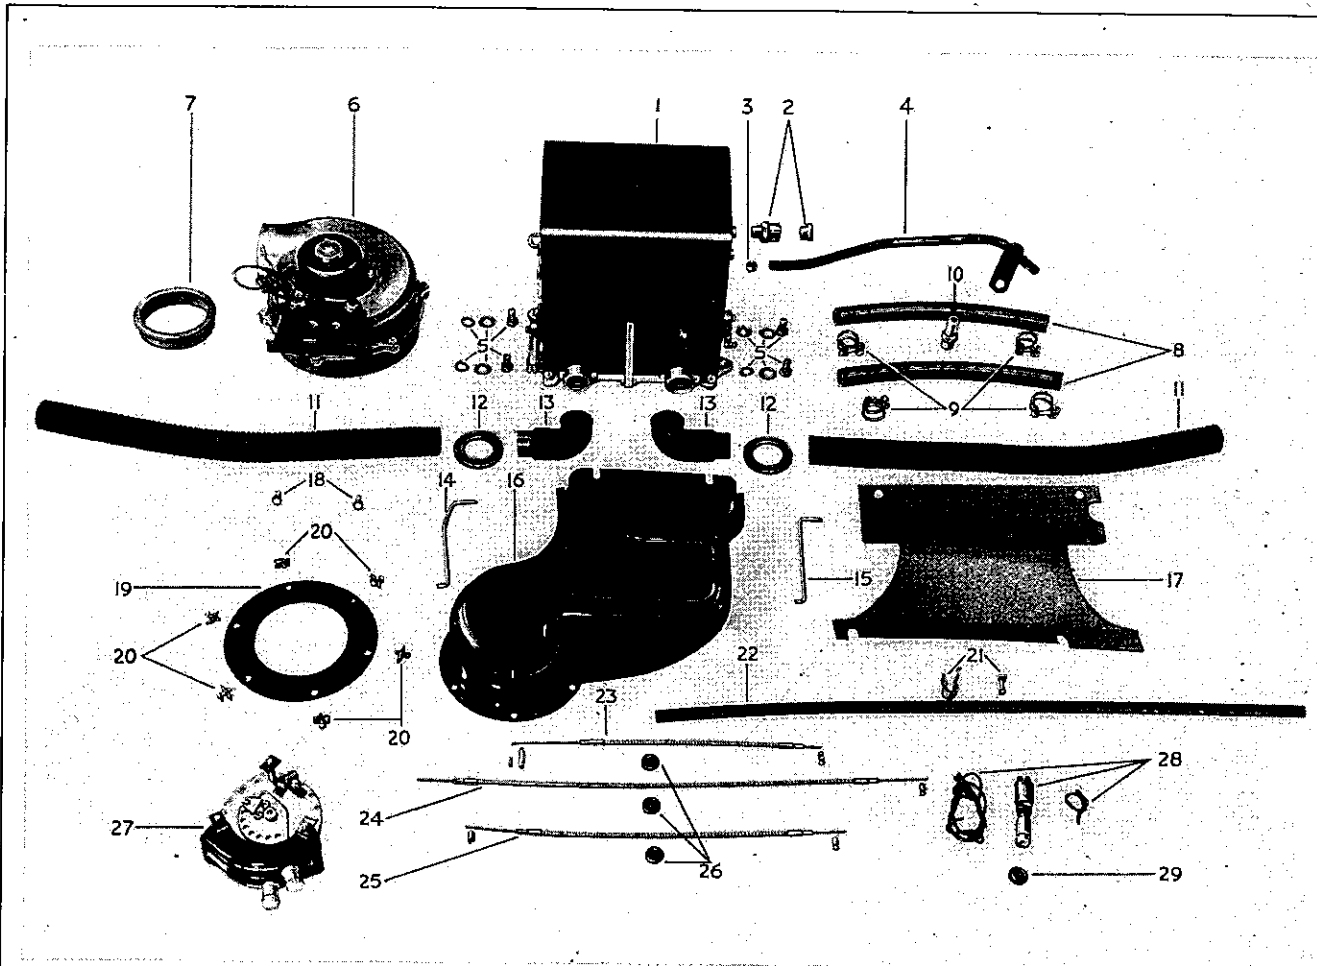

Fig. 3. Heater details.
1. Check equipment supplied against details shown in Fig. 3.
NOTATION FOR FIG. 3